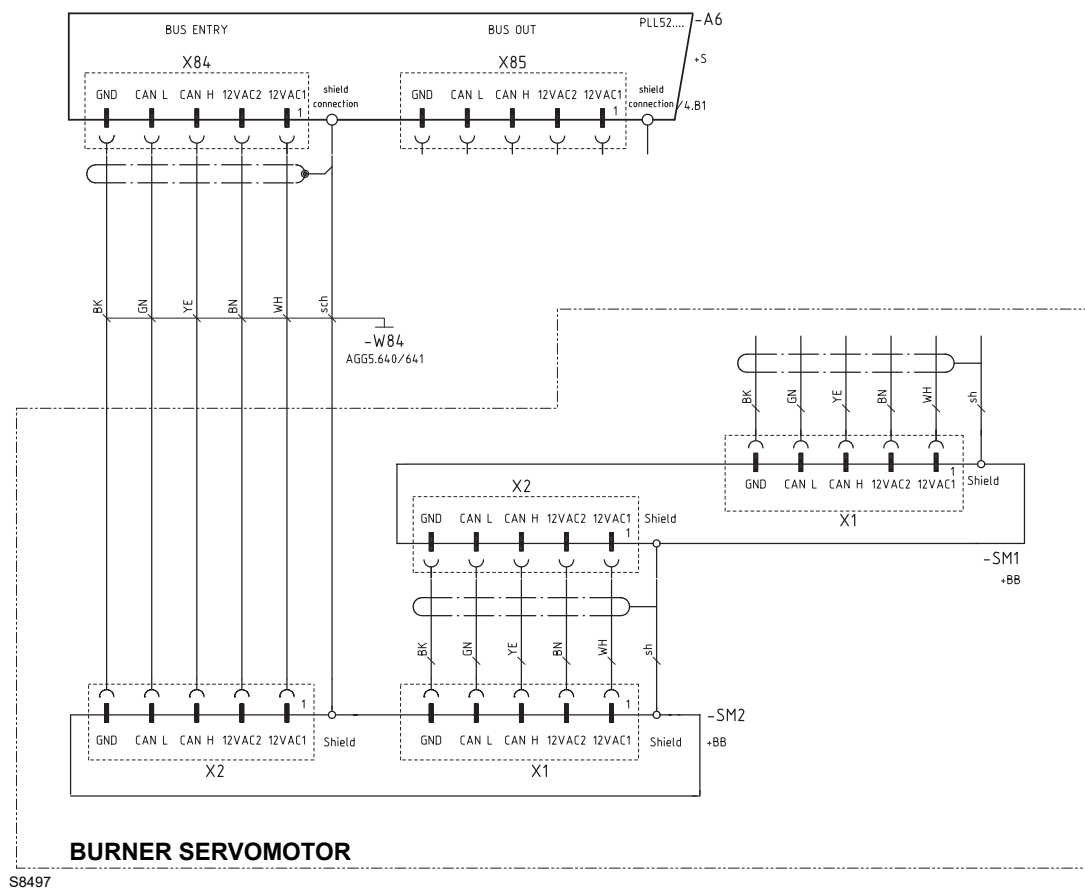

Fig. 7
- Install the cable grommet (supplied) on the last servomotor of the burner (see Fig. 7).